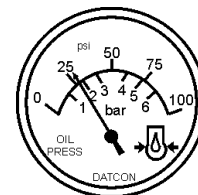

Figure 33. Oil Pressure Gauge
13. The engine oil pressure gauge (Figure 33) will indicate the oil pressure (kg/cm²) of the engine. Under normal operating conditions the oil pressure should be approximately 25 psi.